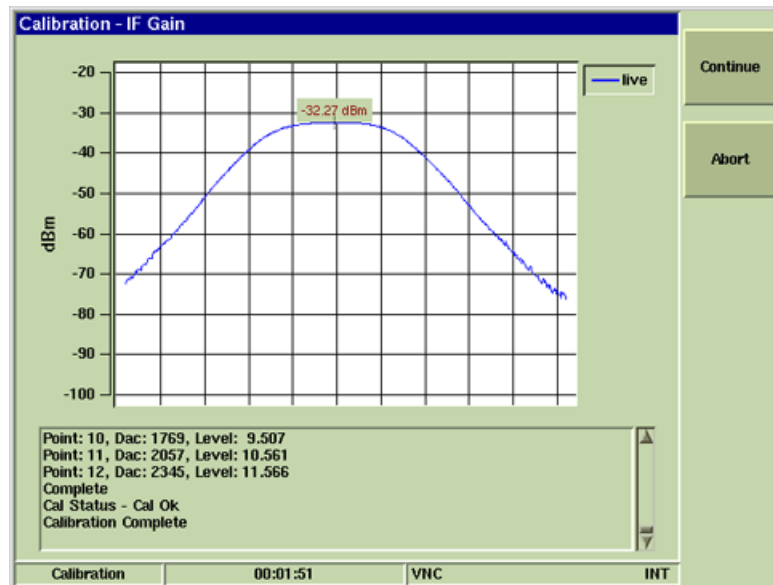

Fig. 4-17 IF Gain Channel Cal Signal Trace
- When the Channel Cal portion of the IF Gain Calibration Procedure is complete, verify Calibration Complete is displayed in dialog box. Verify the signal trace on the Test Set resembles the signal trace as shown Fig. 4-17.